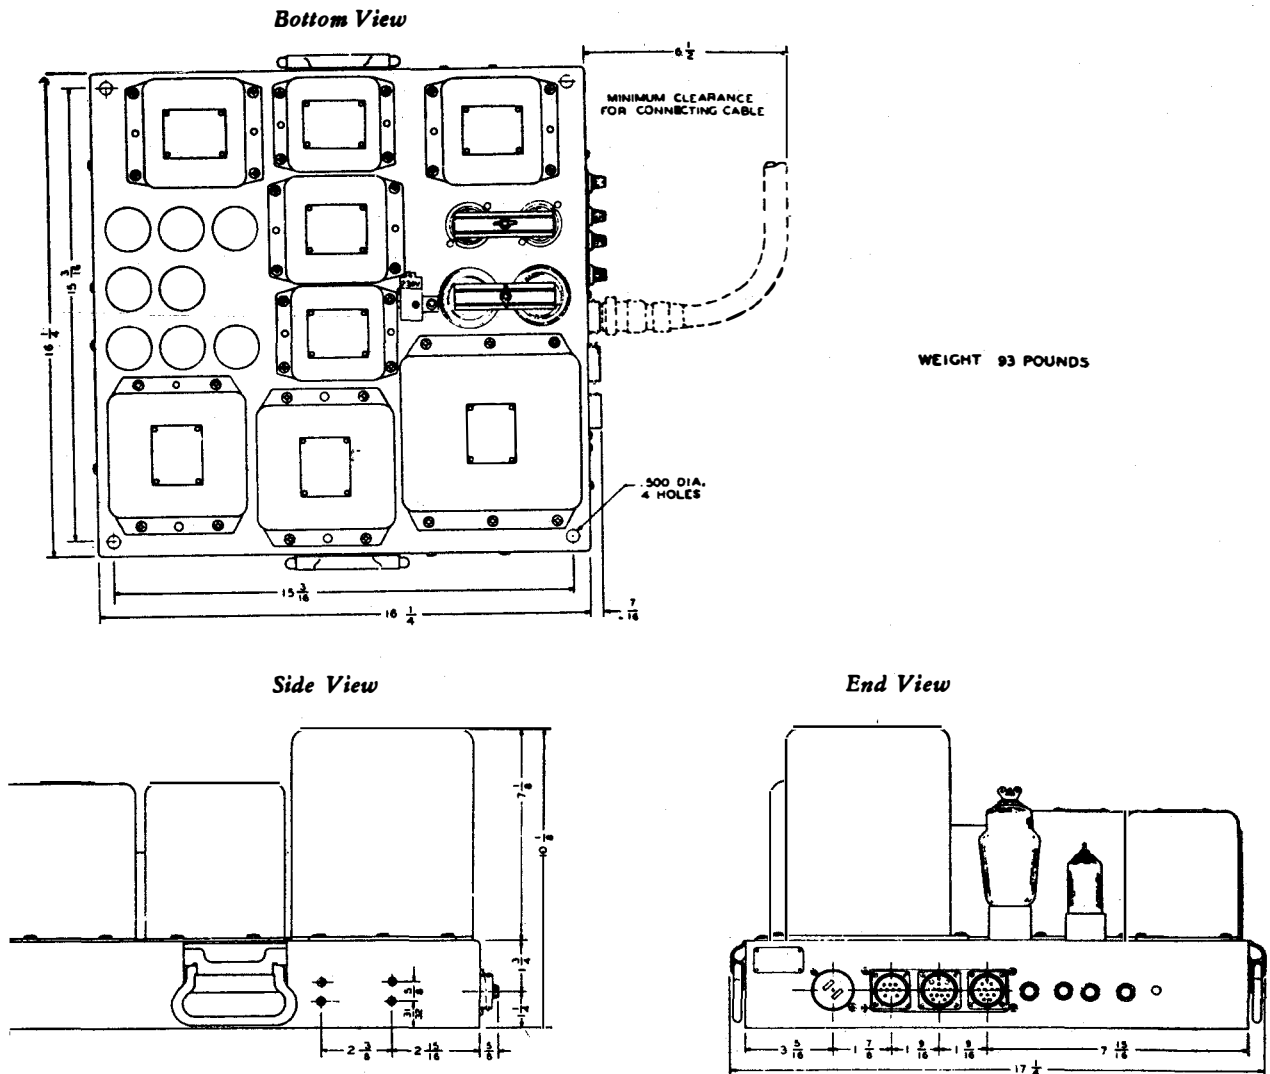

Figure 3-12 Type -20309 Rectifier Power Unit Installation Diagram
(3) **RECTIFIER POWER UNIT.** — The Type -20309 Power Unit requires a space  $16\frac{1}{4}$ " by  $17\frac{1}{4}$ " by  $10\frac{1}{8}$ " high for mounting. Refer to Figure 3-12. The unit should be secured in position with four  $\frac{3}{8}$ " bolts.